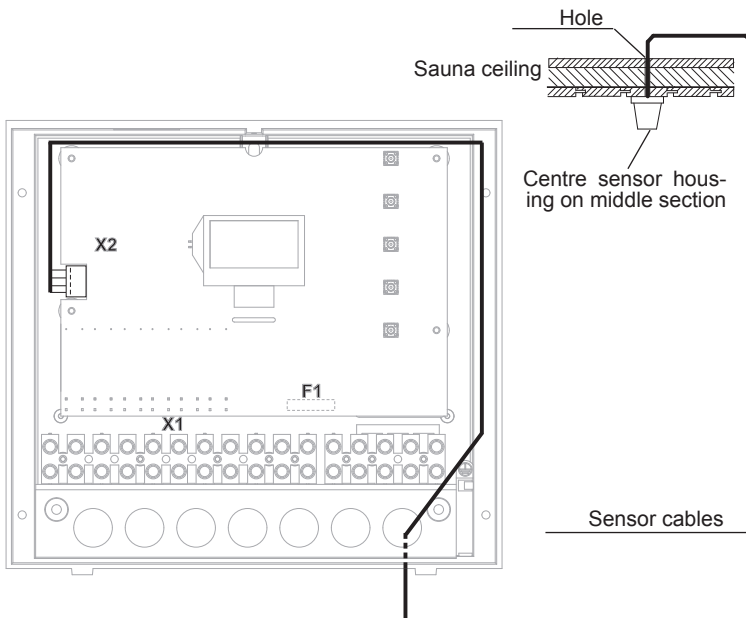
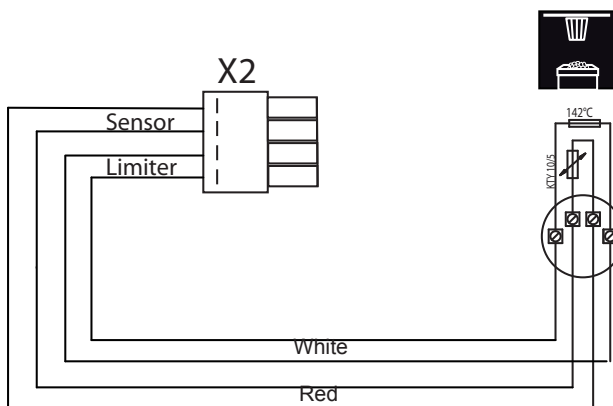

Fig. 11
Fig. 12
5. Lead the sensor cables through the right cable intake into the control unit. Install the sensor cables inside the control unit as shown in Fig. 11. Connect the sensor cables as shown in Fig. 12. In order to do this, pull the plug **X2** from the circuit board and plug it back in after the connection.